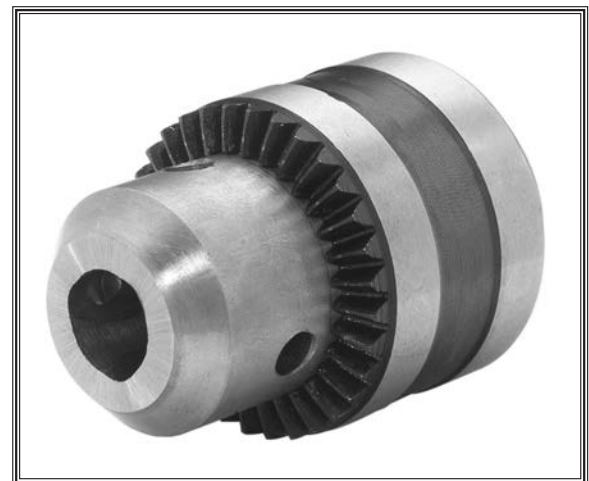

Figure 26. Jaws adjusted inside chuck body.
24. Use the provided chuck key to adjust the jaws of the chuck until they are well inside the drill chuck body (see **Figure 26**).